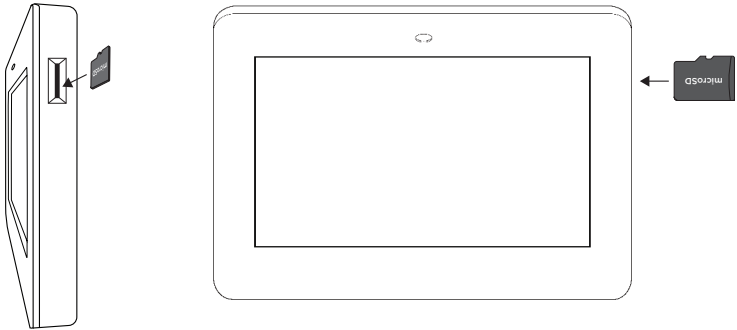

Figure 10: Inserting a microSD Card
5. Insert the microSD card into the microSD card slot on the right side of the keypad. Refer to Figure 10.